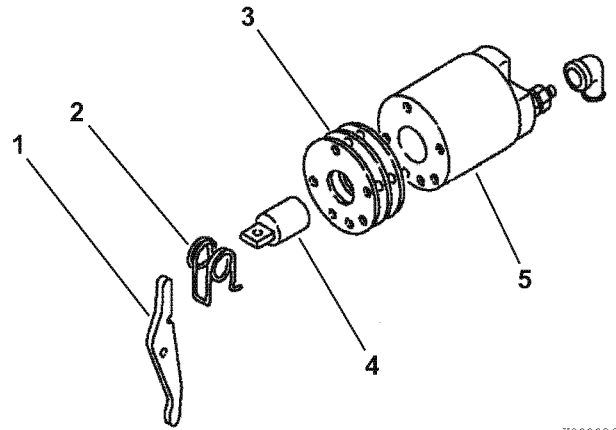

Figure 11-28
4. Apply a small amount of high temperature lithium grease (obtain locally) to the sliding portions of the shift lever (1, **Figure 11-28**). Reassemble the torsion spring (2, **Figure 11-28**), shift lever and dust cover(s) (3, **Figure 11-28**), plunger (4, **Figure 11-28**) and magnetic switch assembly (5, **Figure 11-28**).